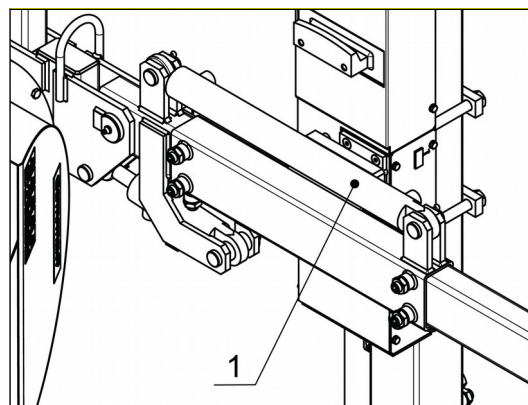

Fig. 24
2. Use the control unit to set the desired working width by the hydraulic cylinder (Fig. 24, No. 1).